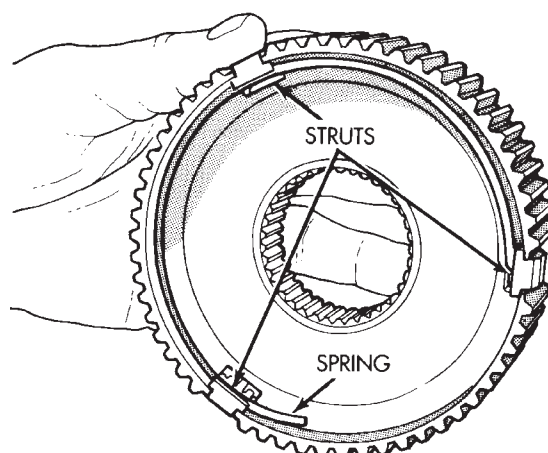

Fig. 73 Correct Position Of Struts And Springs
- Press spring inward and insert last two struts in hub slots. Be sure spring is positioned under struts to properly secure them (Fig. 73).